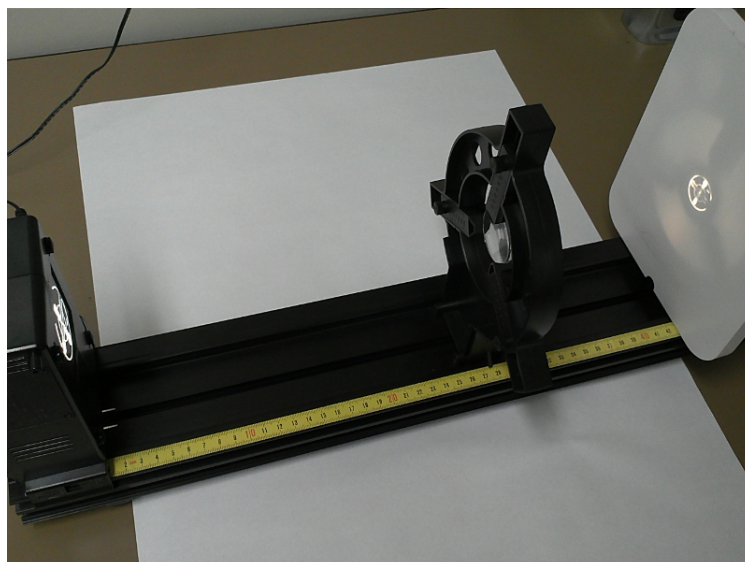

Figure 1.3: Len's equation test setup
1. Set up the lens holder and light source and the white screen as shown in Figure 1.3. Set the light source to illuminated object.